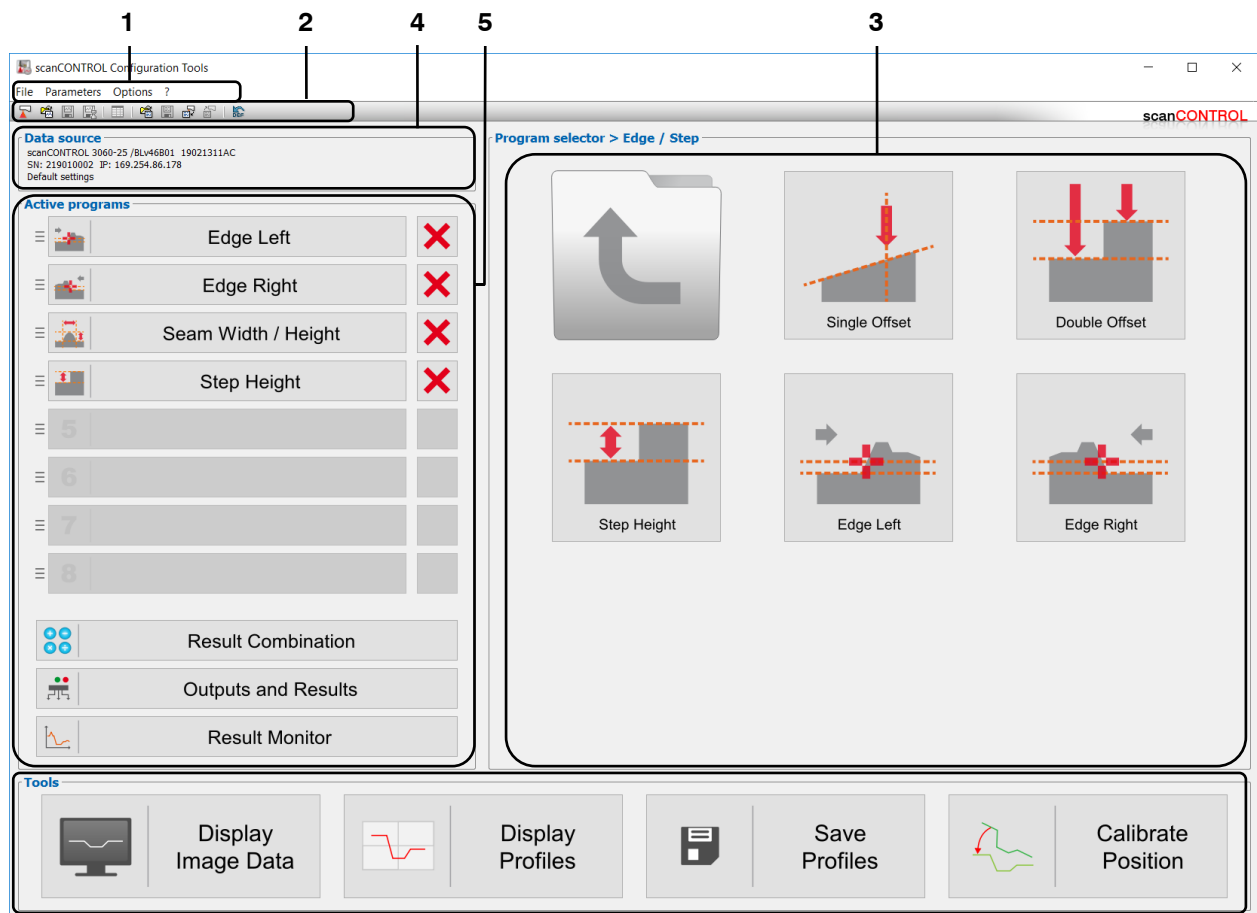

Fig. 3.1: Main View
Note: The "Data source" area (see Fig. 3.1, section 4) is only visible if the "Advanced" option is selected for the "Connect to sensor" parameter (see Chapter 3.20).
- Use the "Program selector" input field (see Fig. 3.1) in order to select up to 16 measuring programs. The selected programs are shown in the "Active programs" input field.
- Configure the individual measuring programs. To do this, press the according buttons in the "Active programs" input field (see Fig. 3.1) or use the navigation menu (see Chapter 3.19). The view of the selected measuring program will be shown (see Chapter 4).
- Combine measured values, if necessary. You will access the "Result Combination" view (see Chapter 5) by pressing the "Result Combination" button in the "Active programs" input field (see Fig. 3.1) or by using the navigation menu (see Chapter 3.19).
- Configure the filters for measured values and the output ports of scanCONTROL. You will access the "Outputs and Results" view (see Chapter 6) by pressing the "Outputs and Results" button in the "Active programs" input field (see Fig. 3.1) or by using the navigation menu (see Chapter 3.19).